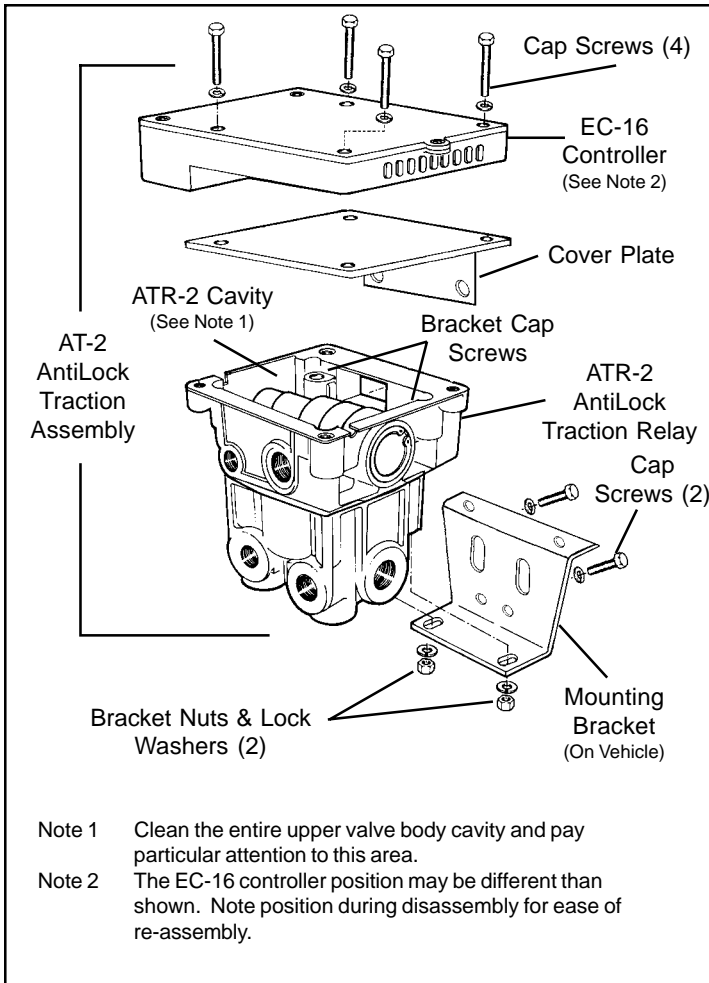

Figure 1 AT-2 (ATR-2) Cover Plate Installation
1. Thoroughly clean all contaminants from the cavity in the upper ATR-2 valve body. *Pay particular attention to the area indicated in figure 1 and make certain all loose debris is removed.*
1. Position the cover plate over the ATR-2 cavity, as illustrated in figure 1, so that the vertical portion will be between the ATR-2 and the vehicle mounting bracket. Position the solenoid wire grommet and make certain that the solenoid wires are not pinched between the cover plate and ATR-2 valve.
3. Further secure the ATR-2 valve to the mounting bracket by installing the two lock washers and nuts removed during step 2 of the removal process. Tighten both and, if necessary, hold the screw heads located in the cavity of the ATR-2 (see figure 1).